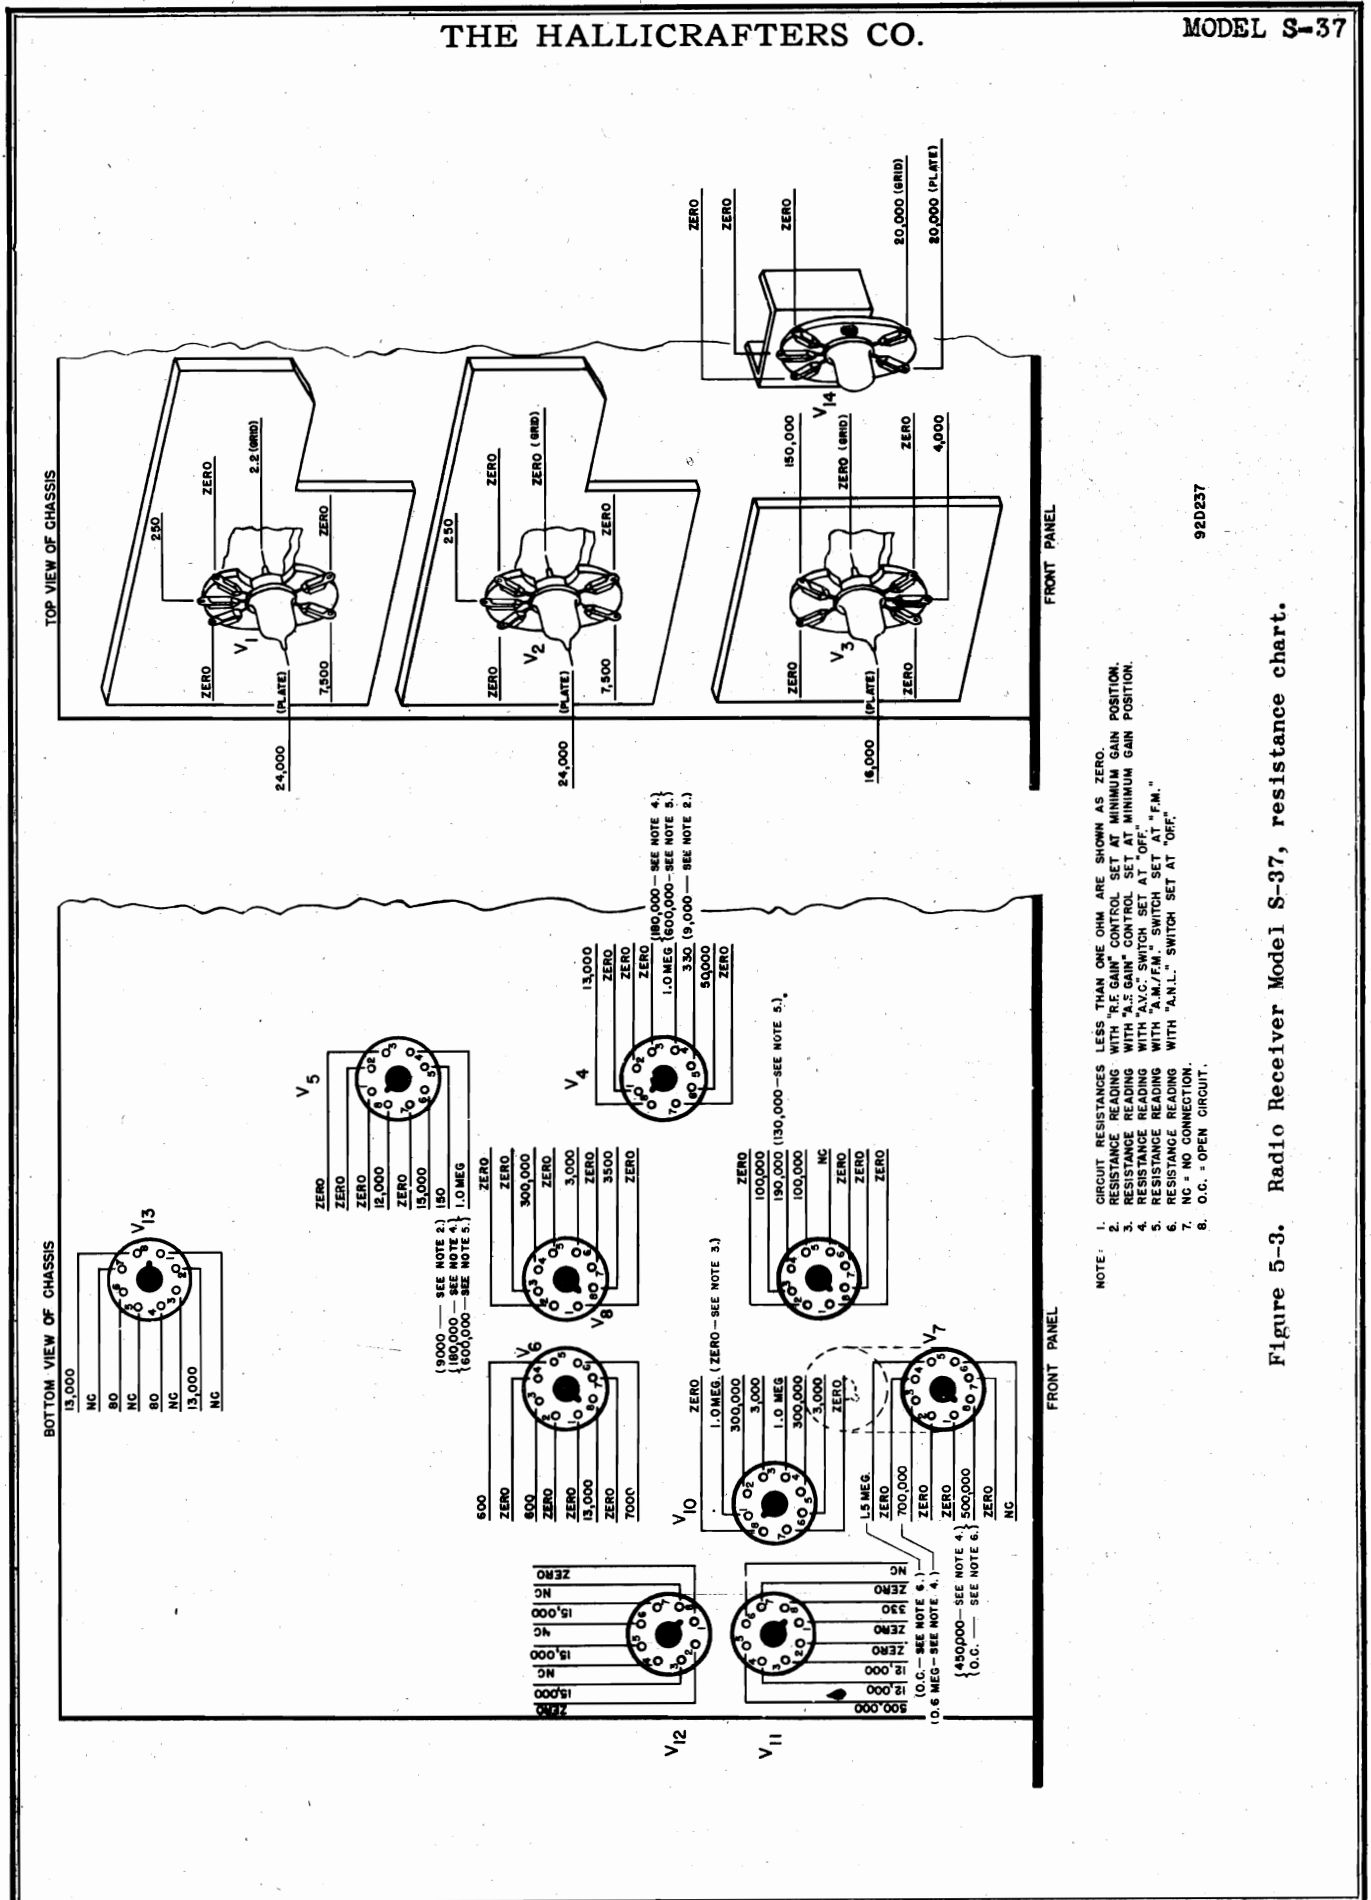

Figure 5-3. Radio Receiver Model S-37, resistance chart.
b. Resistance Chart. - Refer to Fig. 5-3. for the tube socket terminal to ground (chassis) resistance measurements. To identify tube socket connections, refer to Fig. 7-6. The readings were taken with an RCA Volt Ohmyst Junior analyzer. To prepare the receiver for measurement, disconnect the a-c line cord and set the controls as follows: